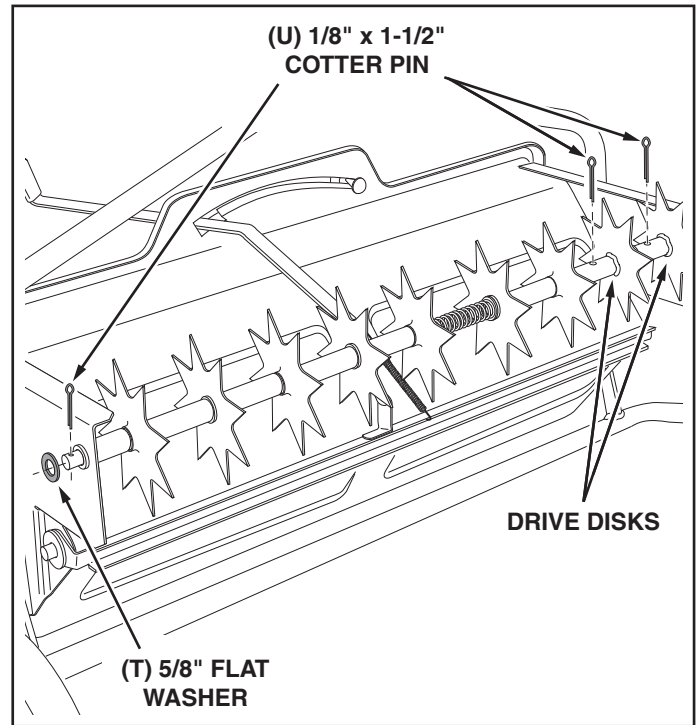

FIGURE 22
41. Place one or two 5/8" flat washers onto the end of the spike disk shaft and secure the shaft with a 1/8" x 1-1/2" cotter pin. See figure 22.
42. Fasten the two drive disks to the shaft using two 1/8" x 1-1/2" cotter pins. See figure 22.